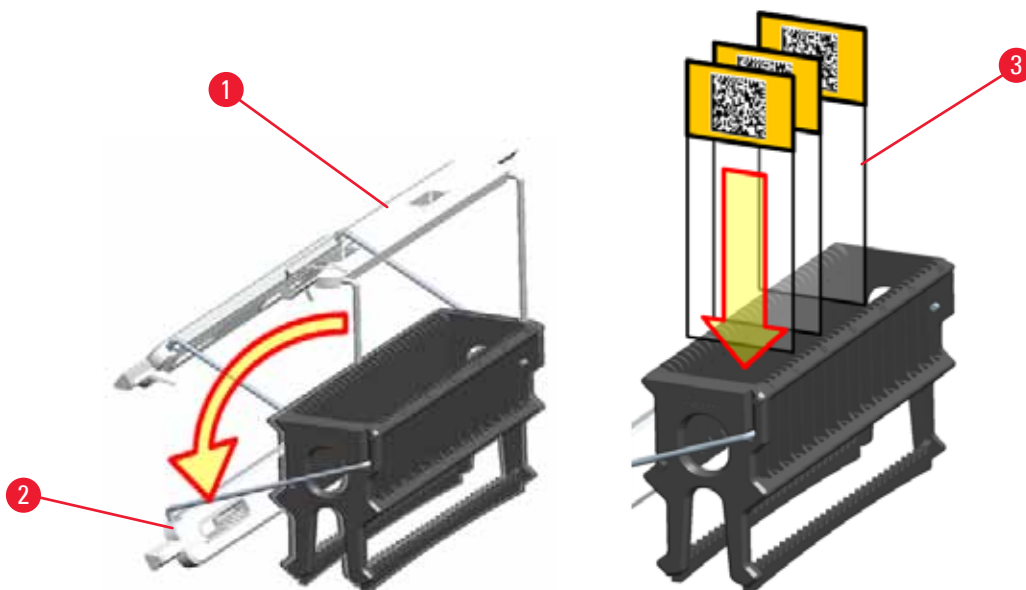

Fig. 82
- The front side of the rack is labeled with the Leica logo. With the handle attached, "Front" can be read when looking at the handle (→ "Fig. 82").
1. Fold the rack handle into the upright position (→ "Fig. 82").